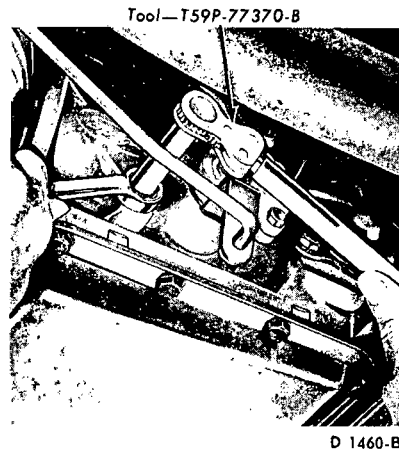

FIG. 26—Intermediate Band Adjustment
2. Install a new locknut on the adjusting screw. With the tool shown in Fig. 26, tighten the adjusting screw until the tool handle clicks. The tool is a preset torque wrench which clicks and overruns when the torque on the adjusting screw reaches 10 ft-lbs.